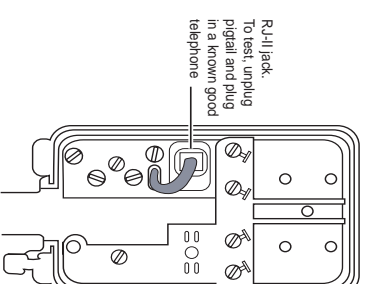

Figure 23. Jack
3. With the power to the RAU off, connect the short phone cable inside the junction box to the RJ-11 receptacle. (See Figure 23.)